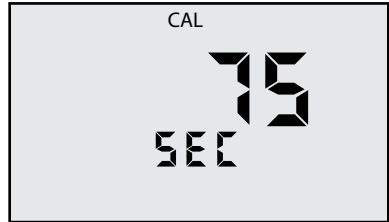

Figure 25
5. Press  or  to change the time (see Figure 25). Maximum time is shown.